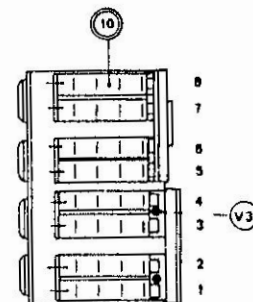

Fig. 8
5. Auxiliary Contacts (Fig. 8)